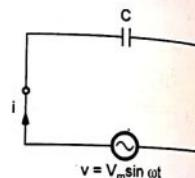

Fig. 3.3.1 Purely capacitive circuit
- Consider a simple circuit consisting of a pure capacitor of  $C$ - farads, connected across a voltage given by the equation,  $v = V_m \sin \omega t$ . The circuit is shown in the Fig. 3.3.1.